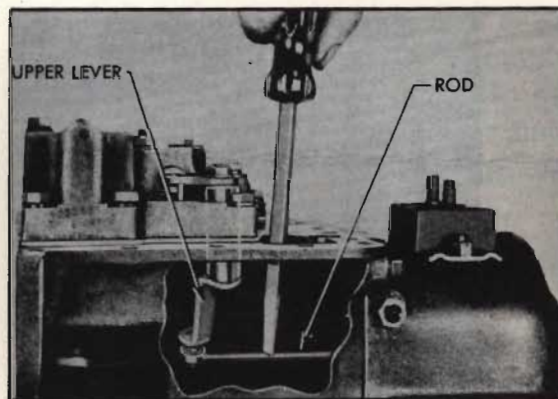

Fig. 44. Disconnecting valve operating rod from upper lever
3. Using a long screwdriver, press down on operating rod to disconnect it from the valve operating lever (Fig. 44). (A spring loaded socket engages a ball stud on lever.)